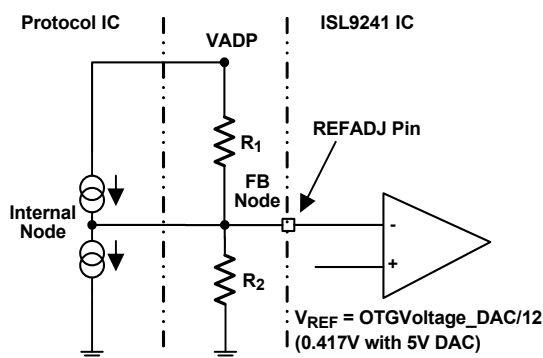

Figure 38. Simplified REFADJ Application
The schematic shown in Figure 38 on page 54 shows how the REFADJ pin is tied to the feedback (FB) node) resistor divider node off the VADP node for a quick charge protocol IC. This schematic sets up the FB node to use the reference voltage of 0.417V from ISL9241, but the output on the VADP node can be set up to any voltage over the standard operating range using the R_1/R_2 ratio.